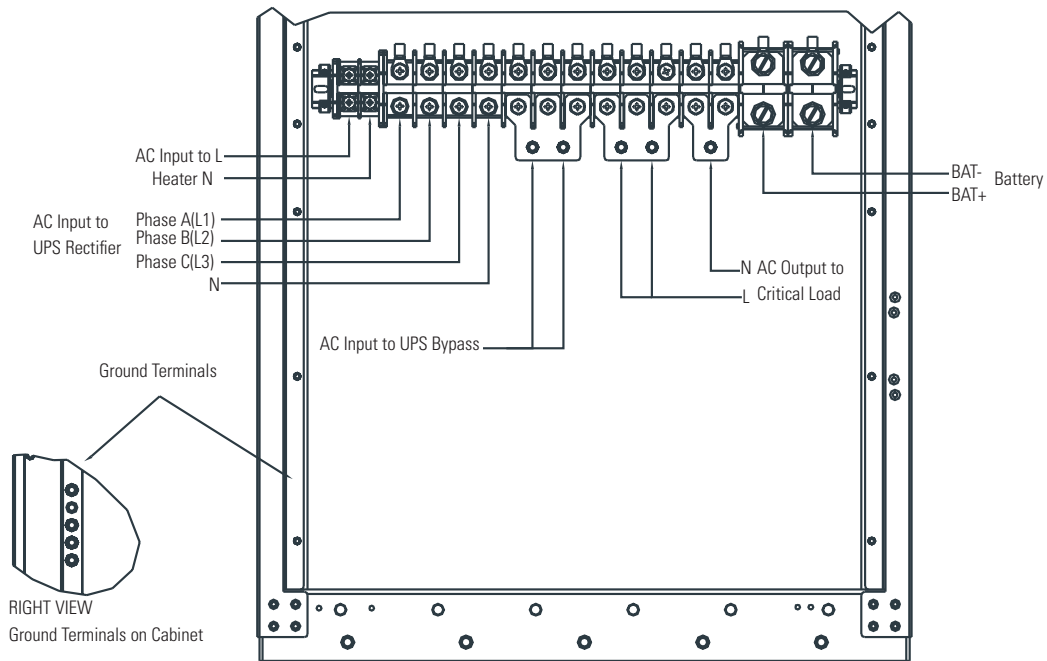
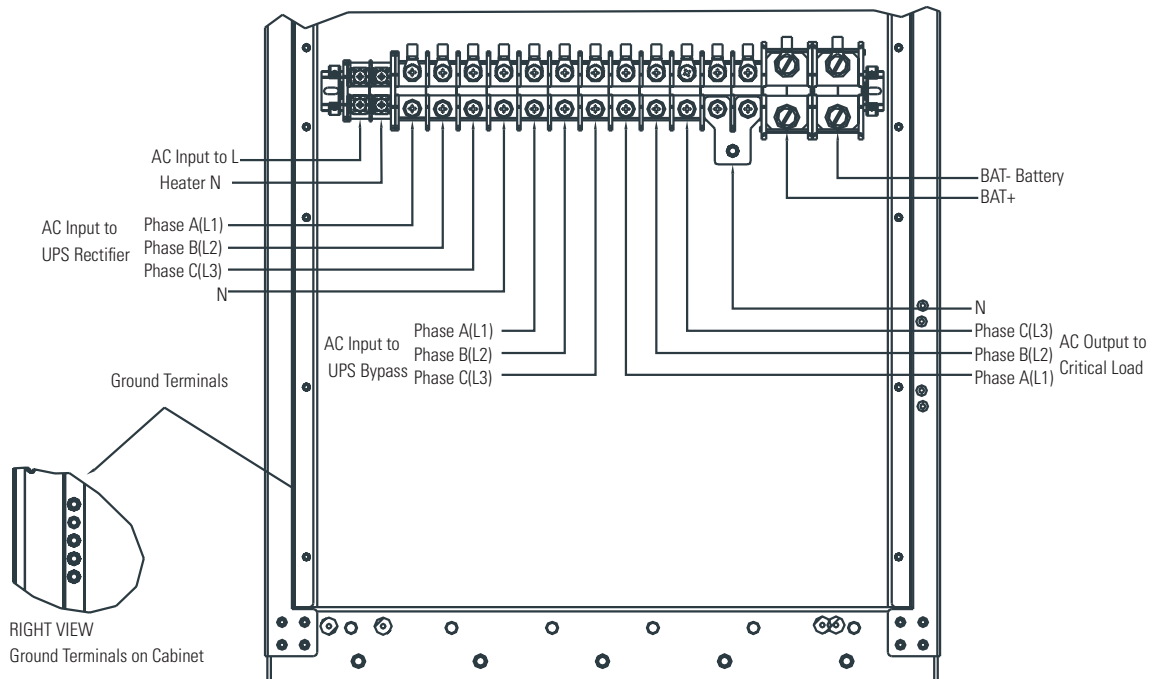
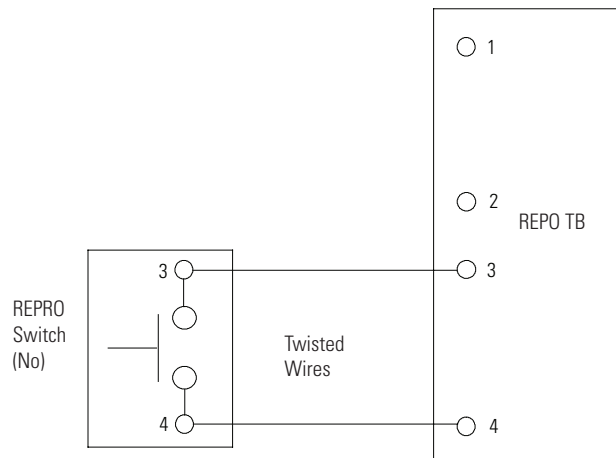

Figure 4-6. Power Terminal Location (EATON 9EHD-31-40/40,30,20)
Figure 4-7. Power Terminal Location (EATON 9EHD-33-40/40,30,20)
Figure 4-17. Normally-Open REPO Switch Wiring
1. Route the wiring to the UPS terminal blocks in the UPS. Figure 4-6 and Figure 4-7 for wiring access information and terminal locations.
2. Ground the UPS according to local and/or national electrical wiring codes by routing and connecting the ground wire to the input ground lug. See Figure 4-6 and Figure 4-7 for UPS terminal locations. For a detailed view of the UPS ground terminals, see Figure 4-6 and Figure 4-7.
3. Connect phase A, B, C, and Neutral rectifier input power wiring from the utility source to the rectifier input and neutral terminals. See paragraph 3.2.2 for wiring and termination requirements. For a detailed view of the UPS terminal block, see Figure 4-6 and Figure 4-7.
For a detailed view of the UPS terminal block, see Figure 4-6 and Figure 4-7.
5. Connect phase A, B, and C, and Neutral power wiring from output terminals and neutral terminals to the critical load. See paragraph 3.2.2 for wiring and termination requirements. For a detailed view of the UPS terminal block, see Figure 4-6 and Figure 4-7.
3. To locate the appropriate terminals and review the wiring and termination requirements, see paragraph 3.2.3, Table 4-2, Figure 4-6 and Figure 4-11.
5. Route and install RJ-45 Controller Area Network (CAN) cables between the UPS cabinets. See Figure 4-6 and Figure 4-11 for wiring information.
6. Route and install pull chain wiring (Twisted Wires 0.5-2.0 mm²) between the UPS cabinets and cabinet MOBs. See Figure 4-6 and Figure 4-11 for wiring information.
2. Route and install the LAN and other cables to the appropriate Mini-Slot cards. See Figure 4-6 and Figure 4-17 for Mini-Slot communication bay locations.